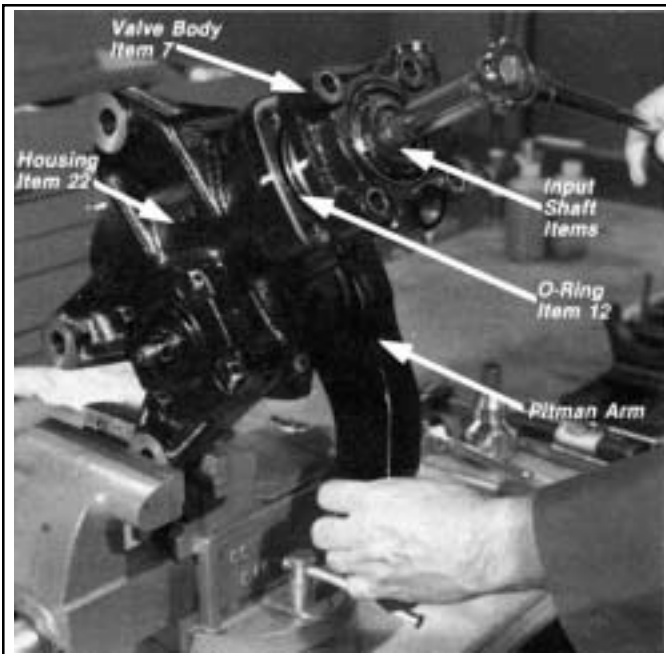

FIGURE 15 - SEPARATING VALVE BODY & HOUSING
3. Separate the valve body(7) from the housing (22) by rotating the output shaft (25) using the pitman arm. It may be necessary to hold or rotate the input shaft (3) during this operation. Continue to separate the valve body from the housing until both O-rings (12) on the valve body can be seen. *Figure 15*.